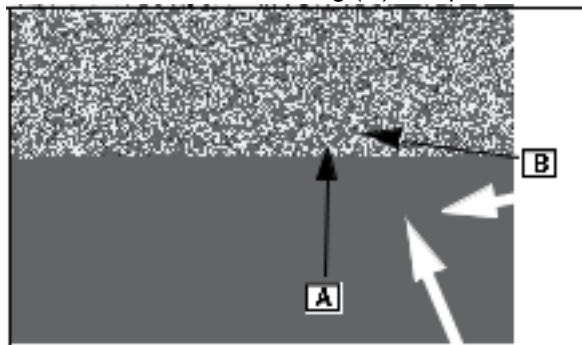

Fig. 25
Position new bushing against counter-bored bearing with the oil hole aligned with hole (B) in the side of the bore ([A] Fig. 25).